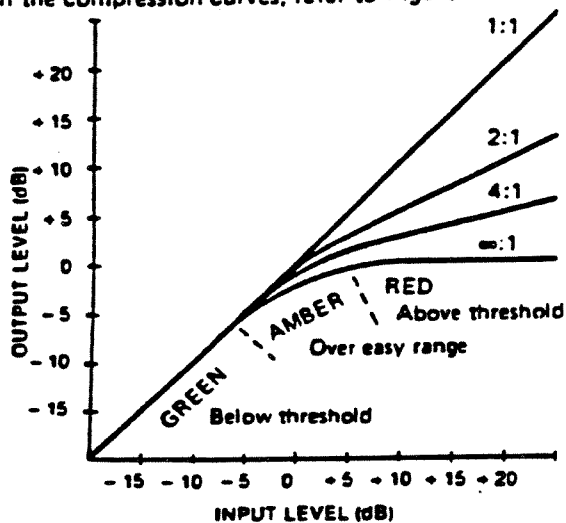

Fig. 4 - How The 165 Threshold Indicator LED's Correlate With The Compression Curve
**Threshold Indicators** There are three LED's which indicate the relationship of the input signal level to the threshold of compression. The green LED is ON when the signal is below threshold, the red LED is ON when the signal is above threshold, and the amber LED is ON when the signal is in the Over Easy threshold range.\* (Refer to Figure 4.) Since the LED's indicate the contents of the gain control signal, their response time will be affected by the selection of automatic or manual operation, and by the attack/release rates selected in manual operation.
Since dbx Over Easy compressor/limiters have no distinct point at which the gain changes, the threshold on such units is defined differently from conventional units. We define the threshold to occur approximately mid way between the fixed gain portion of the curve and the point where the curve "levels off" at the selected compression ratio. At an infinite compression setting, threshold is defined as the level at which 6 dB gain reduction is realized. At this setting, the maximum permissible output level is 5 dB above the threshold. At lower compression settings, the threshold represents somewhat less gain reduction. (In contrast, a conventional compressor/limiter yields 0 dB of gain reduction at the threshold; gain reduction begins just above the threshold.) To see how the 165's Threshold indicator LEDs correlate with the compression curves, refer to Figure 4.